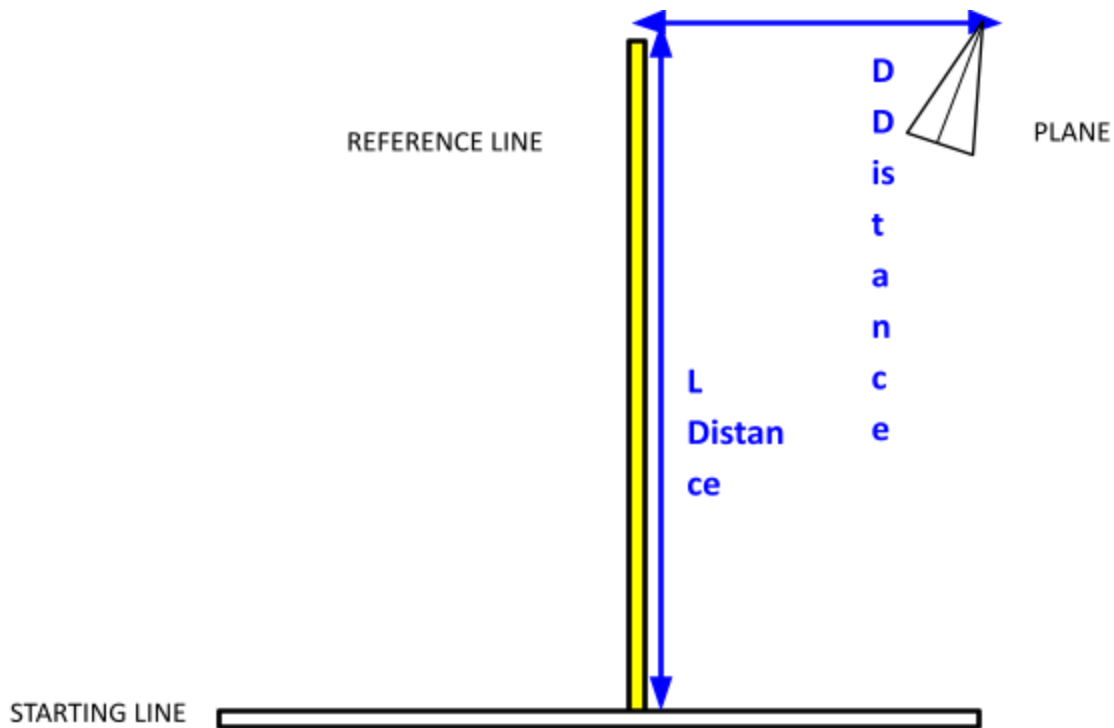

Figure 3. Scoring Variables
- See Figure 3 for an illustration of scoring terms in practice.